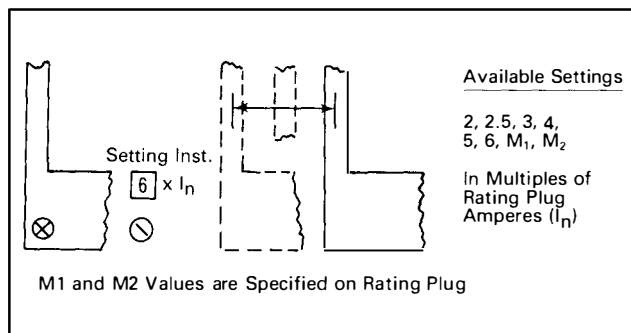

Fig. 4.5 Instantaneous Current Settings
There are eight (8) available Instantaneous Current Settings, as illustrated in Fig. 4.5. Six settings are in the range from 2 to 6 times (I_n) the rating plug value, and the other two settings are "M1" or "M2" times (I_n). The values that "M1" and "M2" have depend upon the type of circuit breaker, and are specified both on the rating plug label (see Fig. 6), and on the applicable Time-Current Curves referenced in Section 9.0.